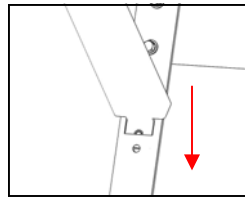

Figure 6
6. Once the **Angle Brace Tab** is through the square hole, slide it down so the screw hole lines up with the screw hole in the side of the face (Figure 6)